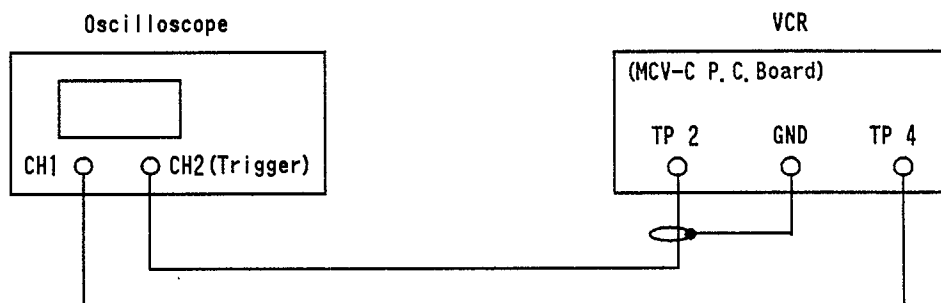

Fig. 5-10
1. Connect equipment as shown in Fig. 5-10.